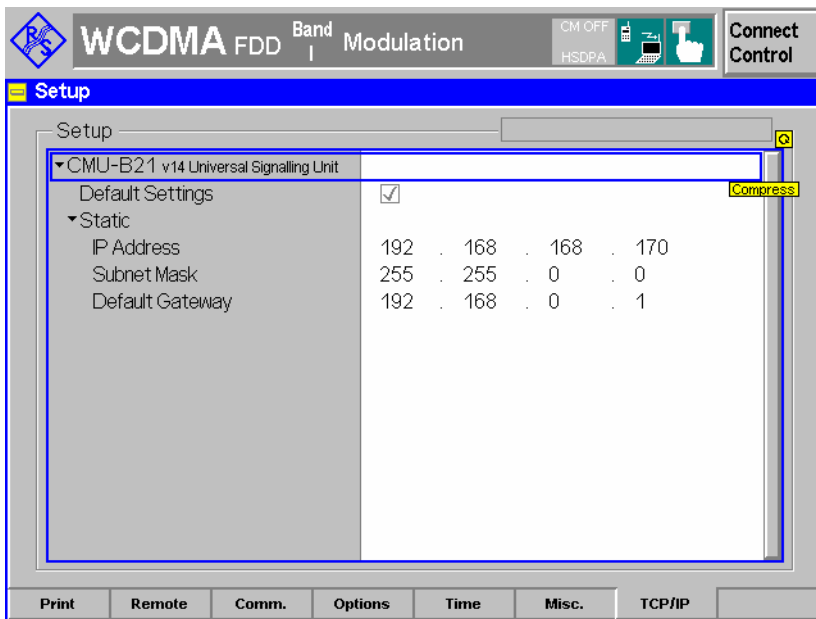

Fig. 9-2 IP address settings for the R&S CMU
4. If you wish to change the IP address of the R&S CMU, you can do this in the *Setup* menu; see Fig. 9-2 on p. 9.3.